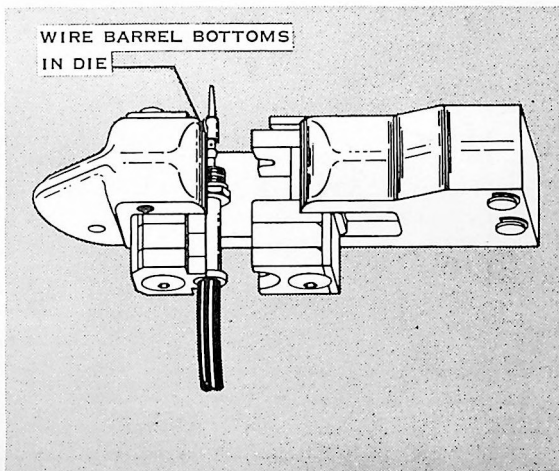

FIG. 3
- (c) Place the Jack or Plug Crimp End in Crimping Dies as shown in Figure 3.
- (e) Braid Ferrule should now be bottomed against the Lower Braid Ferrule Crimping Die with Shoulder on Plug or Jack Crimp End resting against Die. See Figure 3.